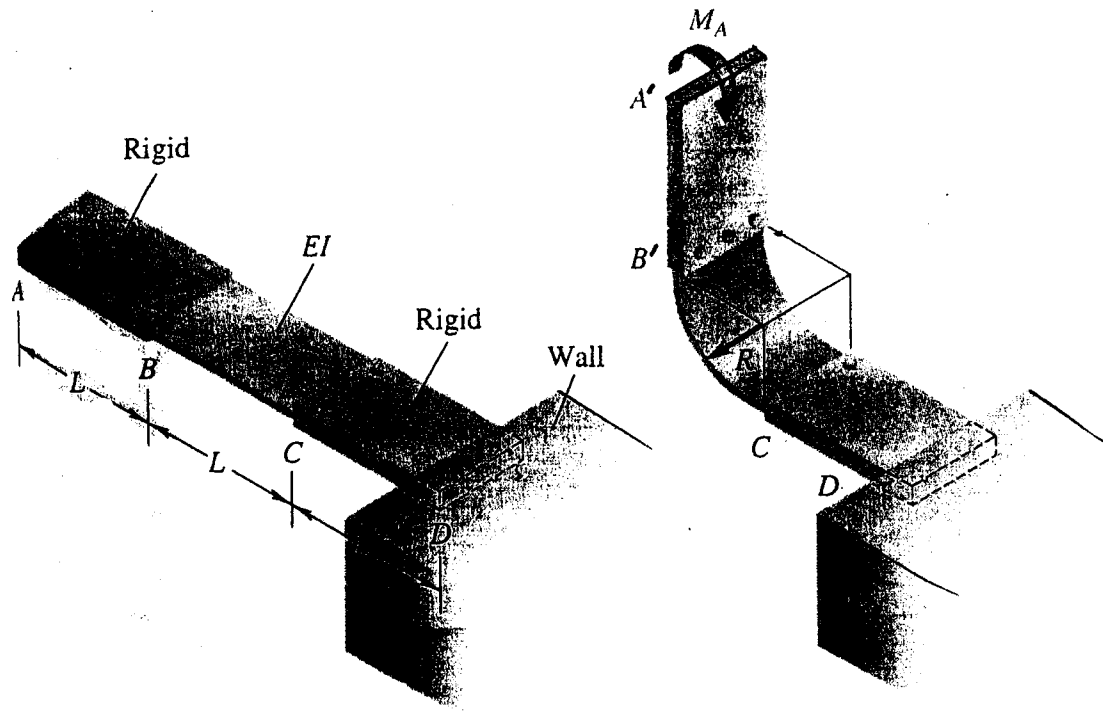

Fig. 3
3. A machine part consists of two stiff rigid metal pieces AB and CD separated by a flexible strip BC of bending modulus EI , shown in Fig. 3. (25%)